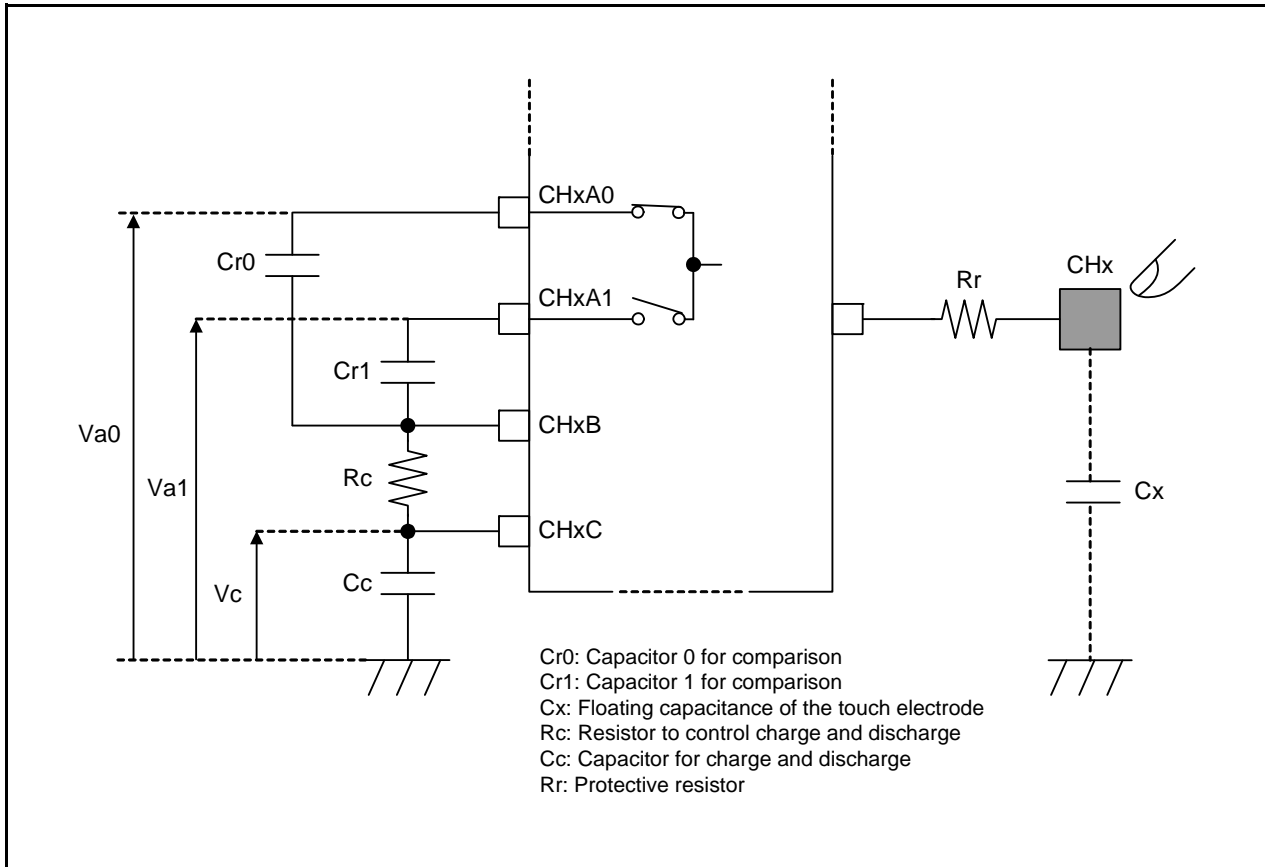

Figure 25.11 Measurement Circuit
Refer to Figure 25.11 for details of the configuration.
Figure 25.11 shows the Measurement Circuit. The measurement operation principles of the sensor touch control unit are explained below.
As shown in Figure 25.11, the operation is described with resistors and capacitors inserted.
- (1) Charge Cc by connecting the CHxC pin to the voltage supply (VCC).
- (2) After charging Cc fully, discharge Cc by connecting pins CHxA and CHxB to the ground level (VSS).
- (3) After discharging Cc for a short period of time, keep pins CHxA, CHxB, and CHxC at high-impedance (Hi-Z), and measure the voltage at the CHxA pin. At this point, as shown in Figure 25.11, when the voltage measured at the CHxA pin is Va, and the voltage measured at the CHxC pin is Vc, Va at the time of voltage measurement is expressed by the following formula (A).